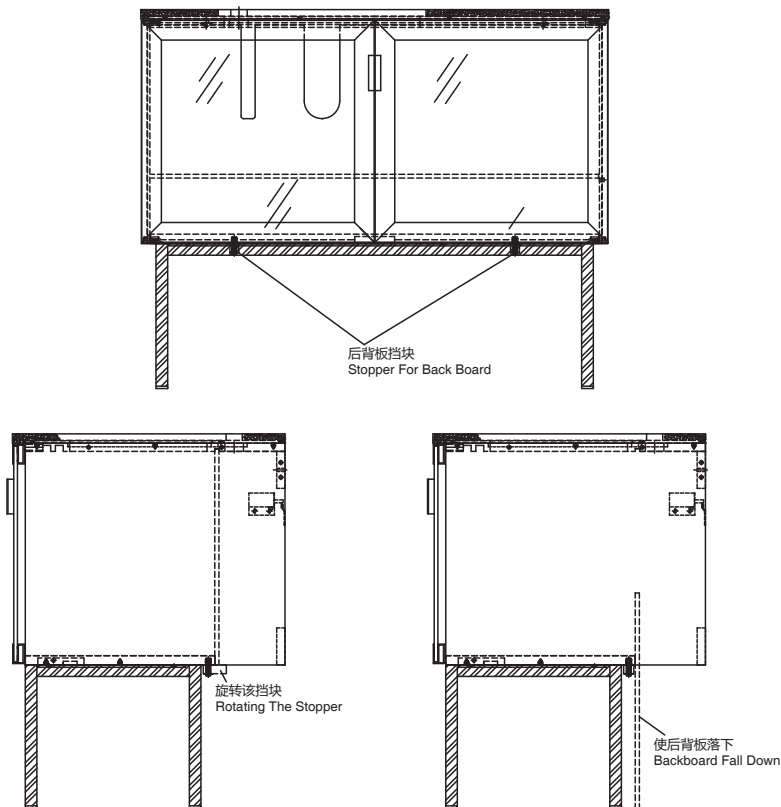

Fig. 9 图 9
- 2. Have the power bus at the back of the cabinet connected with the reserved line on the wall by a professional technician (see figure 9) to avoid electric leakage.
- 3. After the procedures stated in 1 and 2 above are completed, lift the backboard to the location shown in Figure 9. Turn the stopper by 90° to fix the backboard.
- 2. 由专业电工将浴柜后部的电源总线与墙面预留的电线（图 9）连接起来，确保安全无漏电。
- 3. 安装好后，参考上述图 9 中，将后背板升起，并转动背板挡块 90 度，固定住后背板。